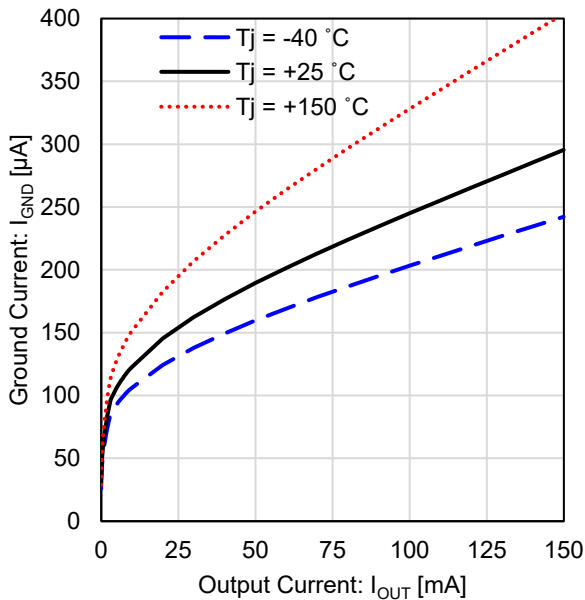

Figure 31. Ground Current vs Output Current (3.3 V output)
*magnification of Figure 31 at low output current (3.3 V output)